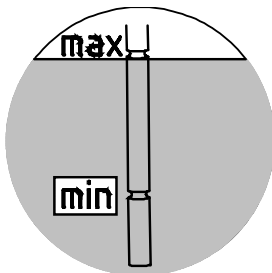

Figure 26: Checking the oil level with a dipstick
2. The oil level must be between the upper and lower marking when the dipstick is fully screwed in (see Figure 26). If the oil level is too low, adjust the oil level with the corresponding oil type.